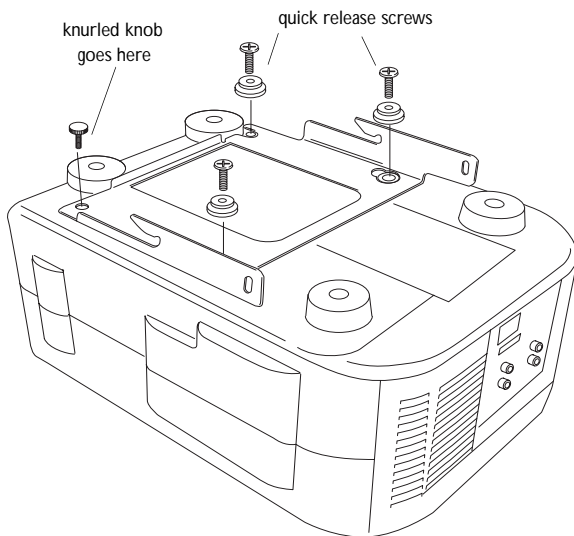

FIGURE 3
- 2 Insert the 3 screws into the 3 quick release sleeves (Figure 3).
- 3 Loosely attach the screws and sleeves to the holes in the projector as shown in Figure 3.
- 5 Attach the 5mm knurled knob to the projector in the location shown in Figure 3. Tighten the three 5mm screws and the 5 mm knurled knob. Be careful not to over-tighten the screws.